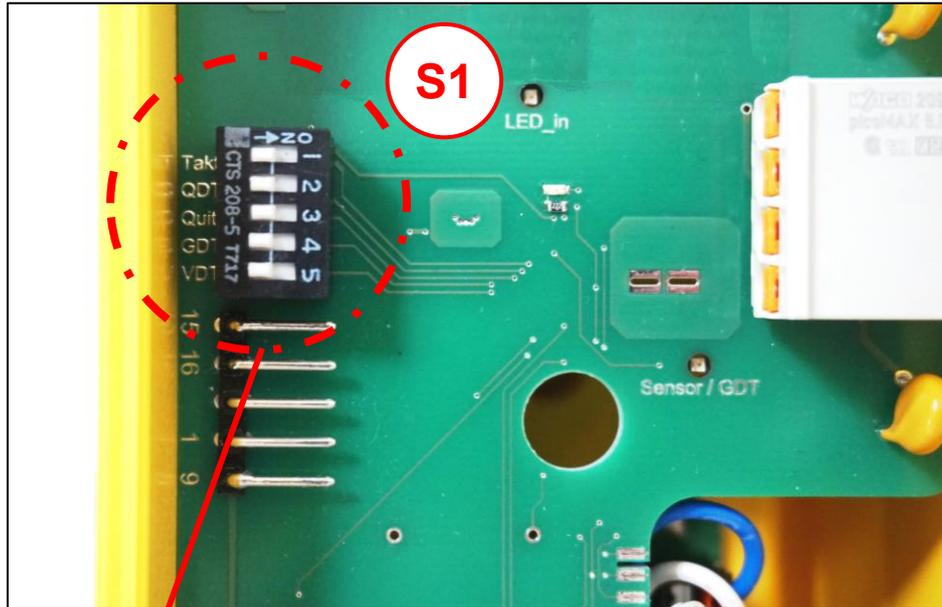

Fig. 6
- The switching output is factory-configured as a normally open contact and can be changed by switch S1.5 to normally closed (see Fig. 5 and Fig. 6).
- The switching output is factory-configured as a normally open contact and can be changed by switch S1.4 to normally closed (see Fig. 5 and Fig. 6).